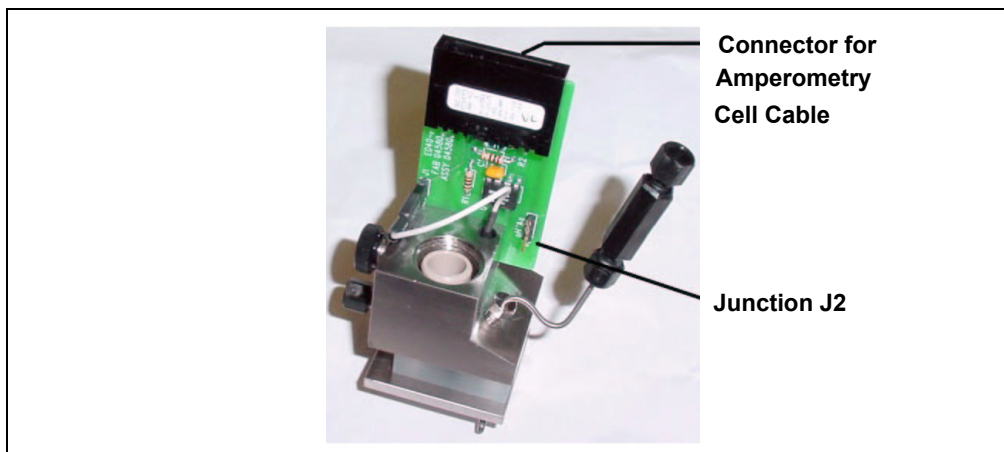

Figure B-5. Cell Electronics Card
1. Make sure the detector is turned off and then connect the amperometry cell cable to the cell and to the **EC CBL** connector on the SP card (see Figure 2-3.). Connect the other end to the cell’s electronics card (see Figure B-5).
2. Connect the reference electrode cable to junction J2 on the cell electronics card (see Figure B-5).